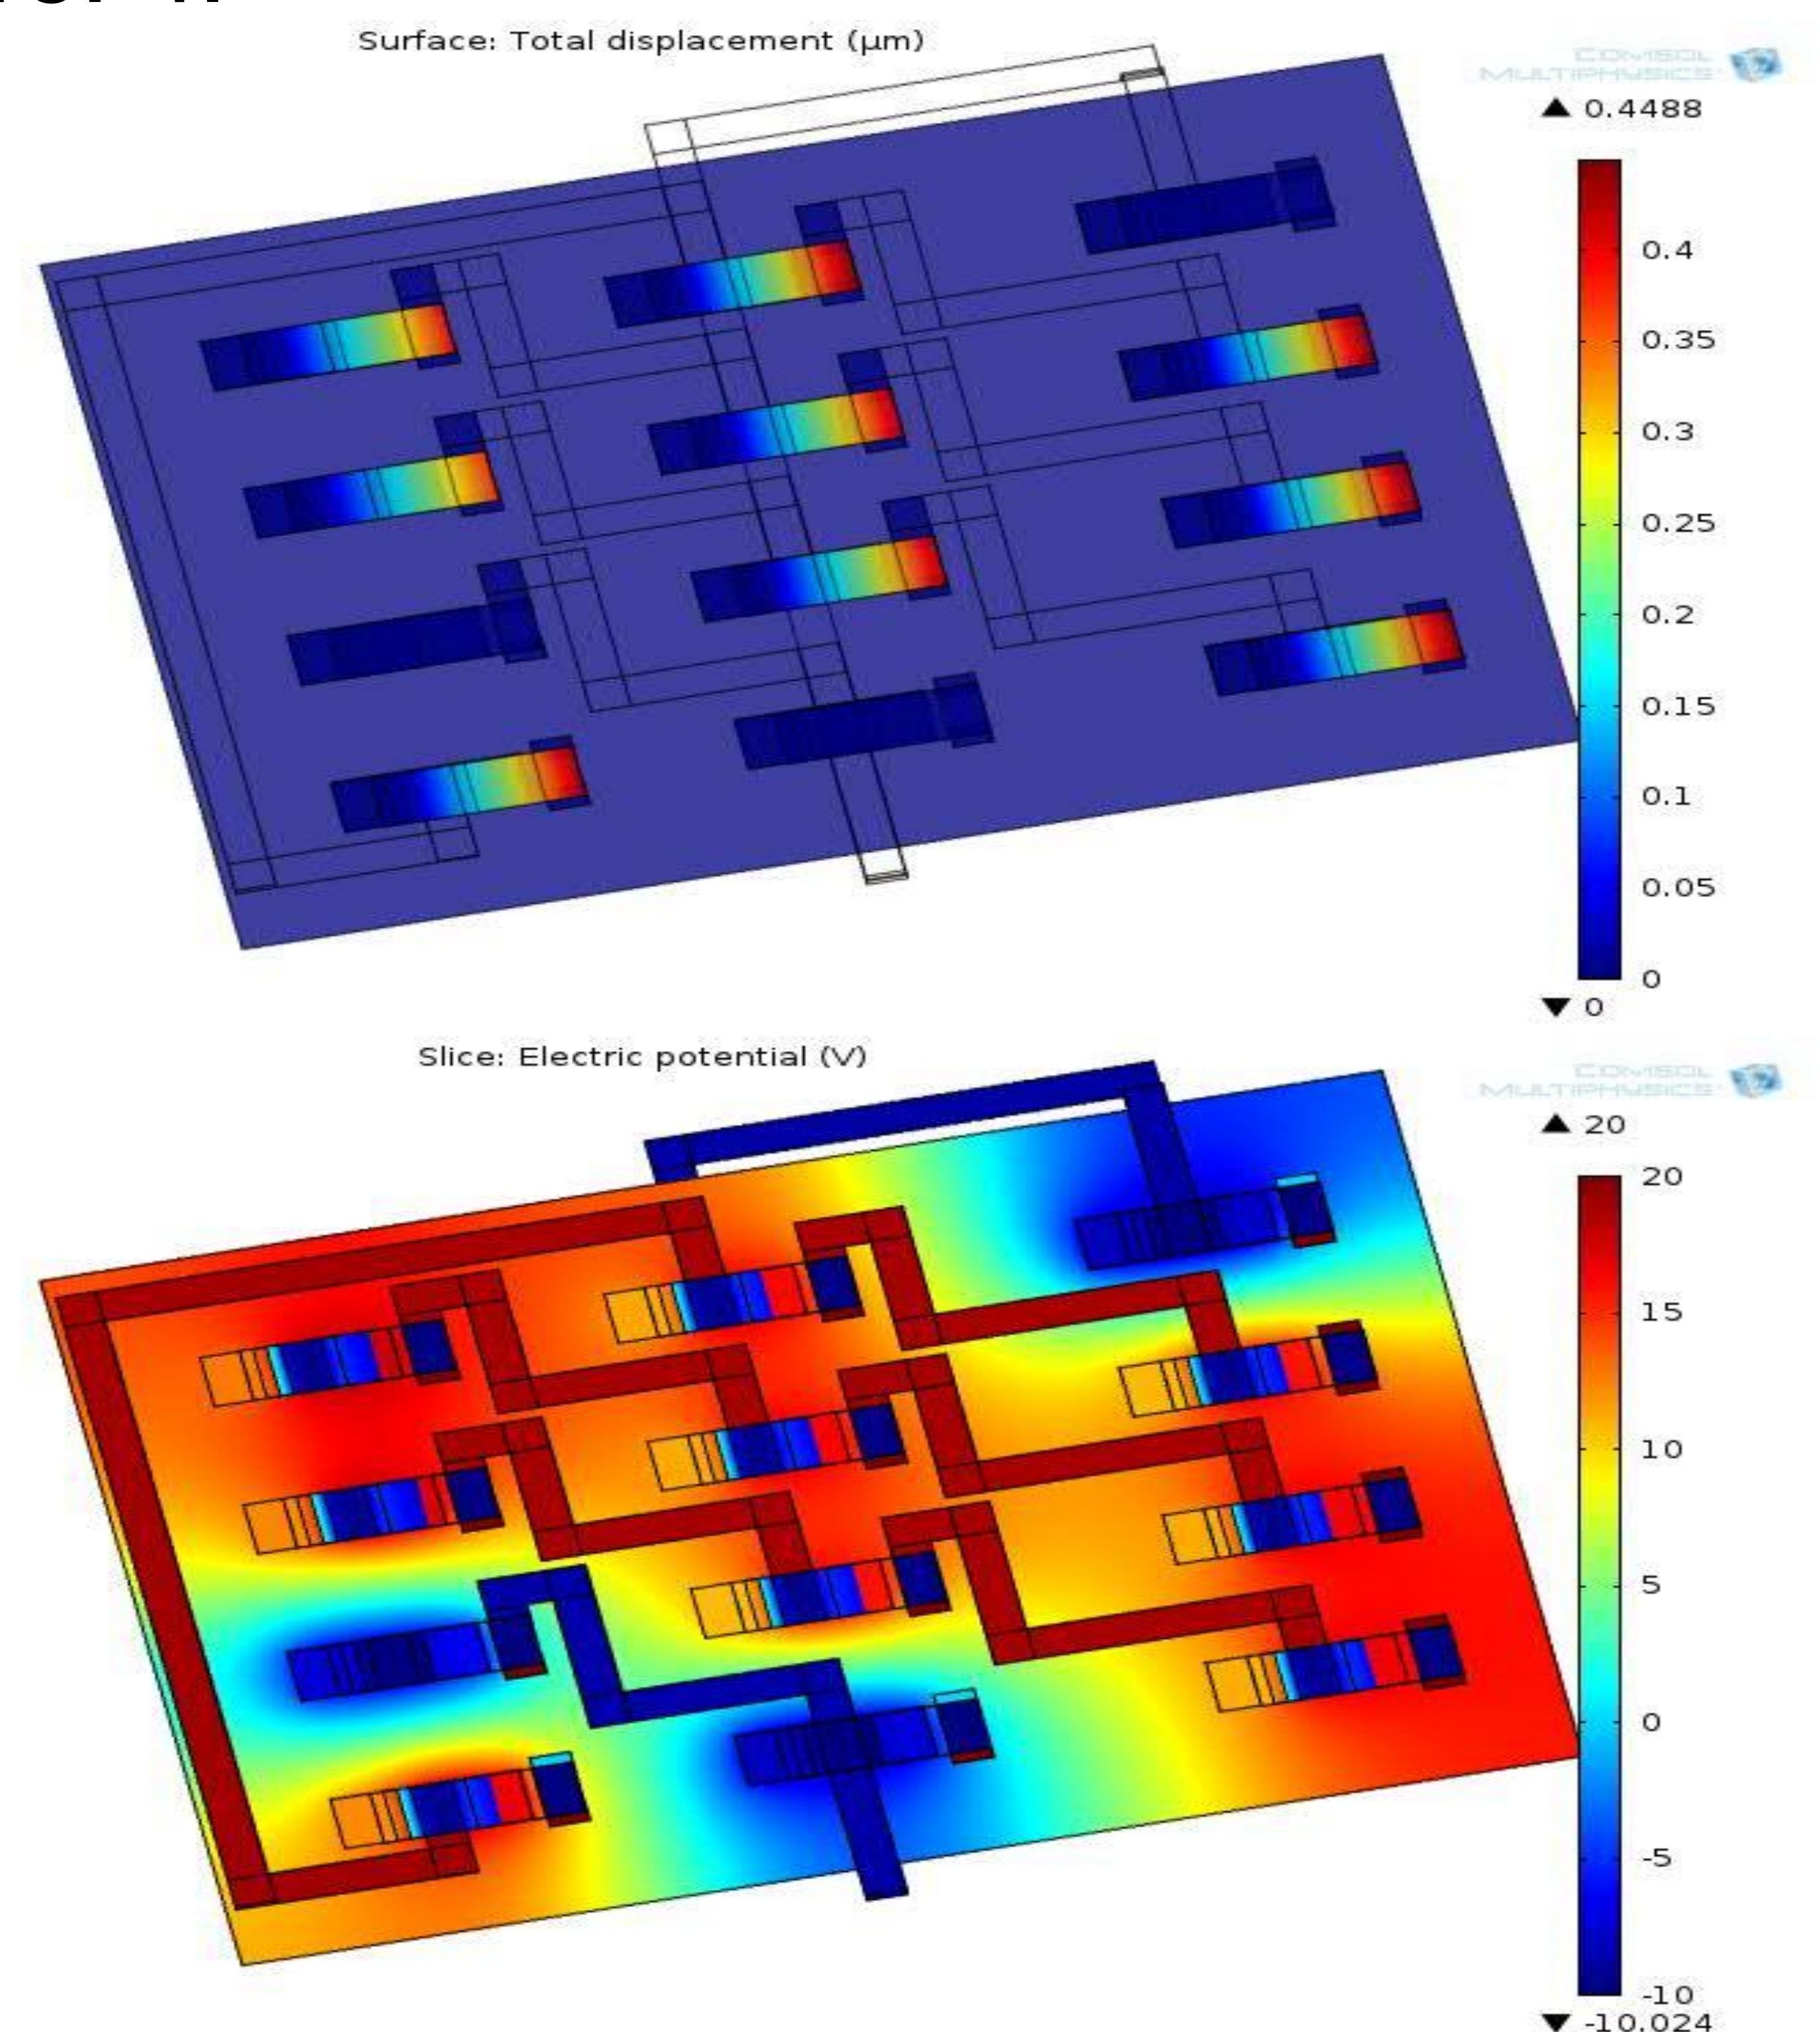

Figure 3. Deflection of cantilevers Figure 4. Voltage scale
**Results:** Given logical data is 1101 at the first stage and after shifting operation at the third stage the obtained data is 1110 shown in figure. 3. Red color indicates positive potential and is 20V and blue color indicates negative potential shown in figure. 4.